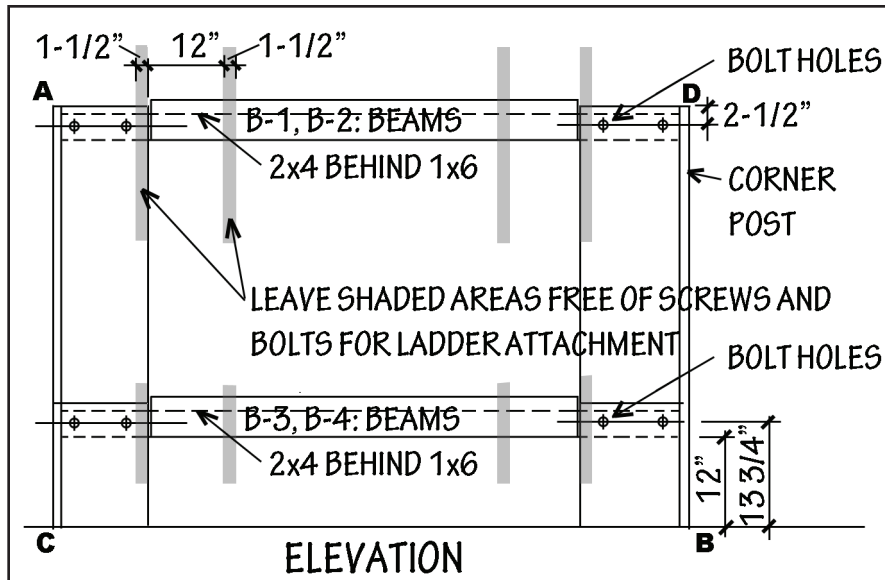
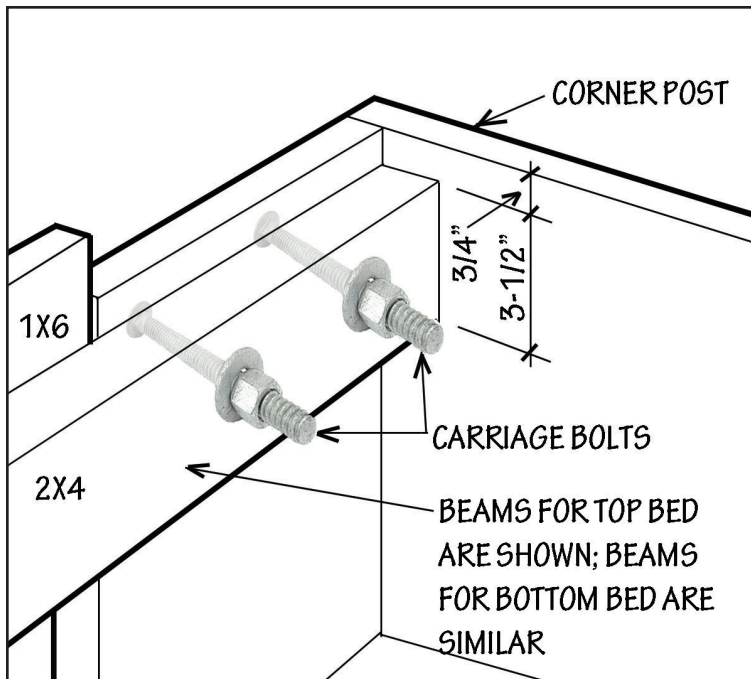

Figure 3. Bolted beams
Figure 4. Bolted connection of beam to corner post
4. Bolt the front and back beams (see page 5 and Figure 3) to the corner posts. The diagram at the bottom of page 4 shows their location. Use two 5/16" x 3" carriage bolts at each end of each beam. Before drilling the bolt holes, make sure that the corner posts and beams are perpendicular to each other. The diagonal distances from A to B and from C to D (shown in Figure 3) must be equal. Drill 3/8" bolt holes through the beams and corner posts in the locations shown in Figure 3. This hole size is slightly larger than the carriage bolt shaft diameter of 5/16". Insert the carriage bolts, place a washer on the side with the nut, and then tighten the nuts. The 1x6 part of the beams should align with the surface of the corner posts (see Figure 4).